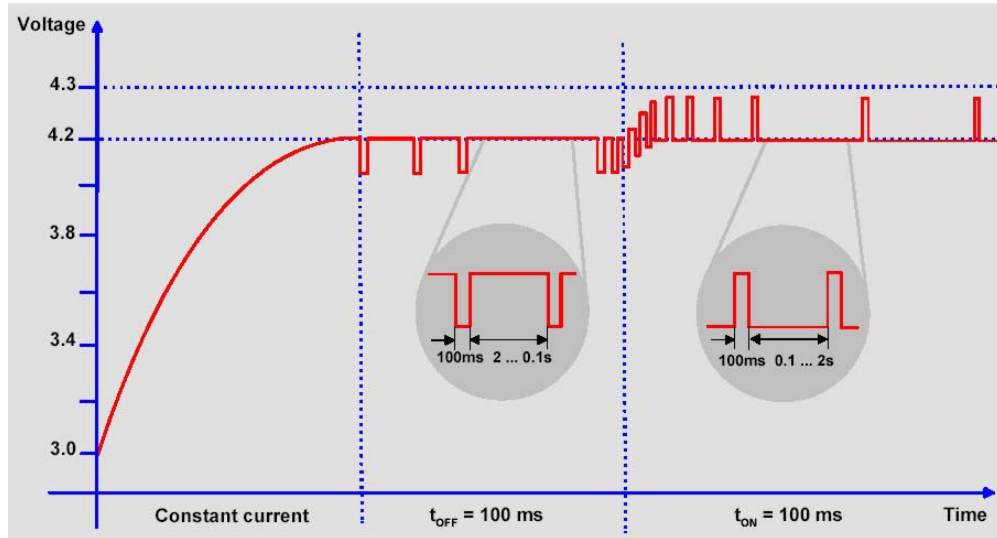

Figure 9: Charging process
- ❖ Fast charging delivers a constant current until the battery voltage reaches 4.2 V and then it proceeds with varying charge pulses. As shown in Figure 9, the pulse duty cycle is reduced to adjust the charging procedure